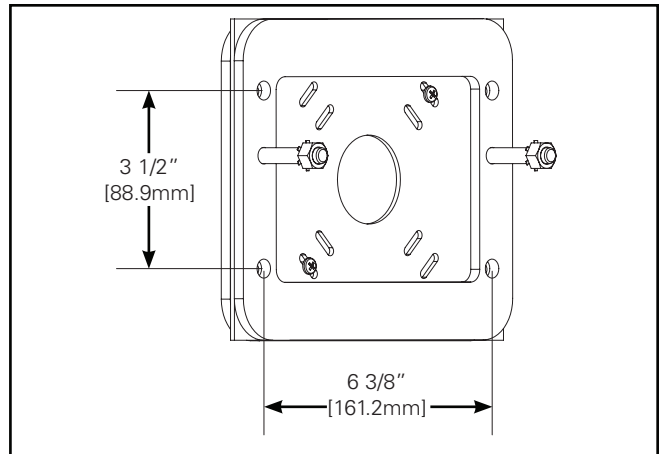

Figure 6.
3. In addition to the screws supplied with the junction box, the unit must be supported by 1/4" anchor screws (supplied by others) installed through the four holes provided. (Figure 6.)